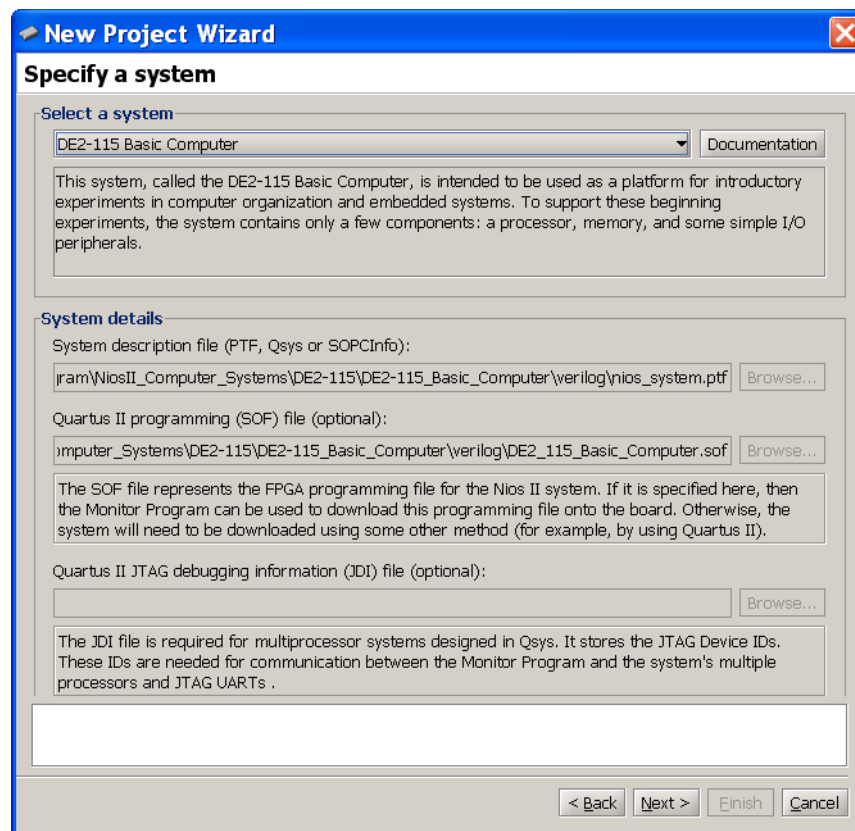
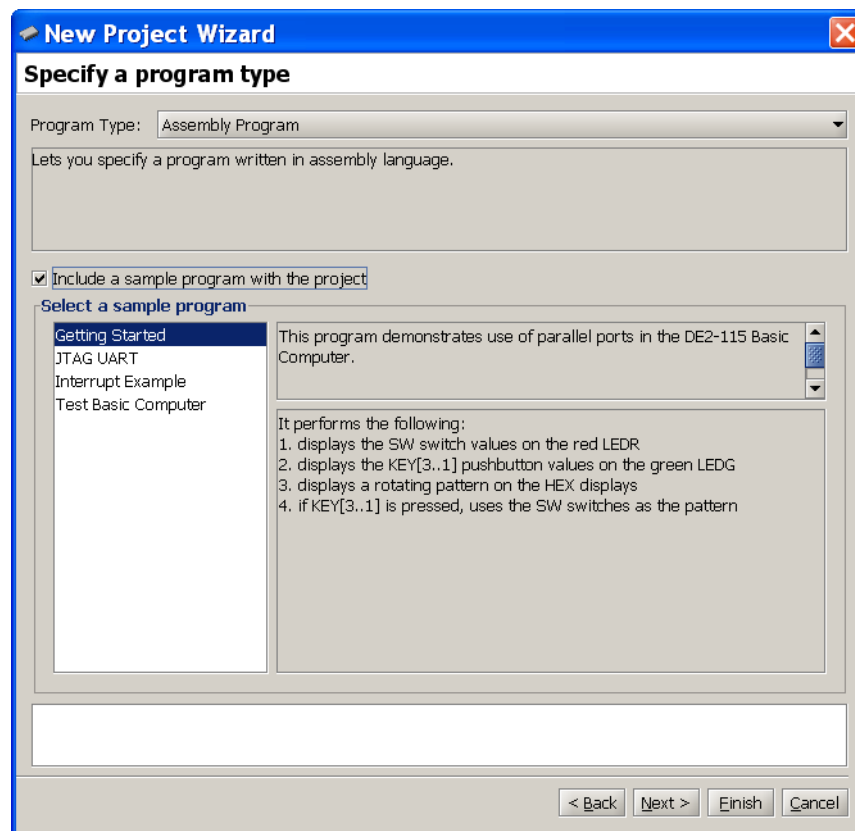
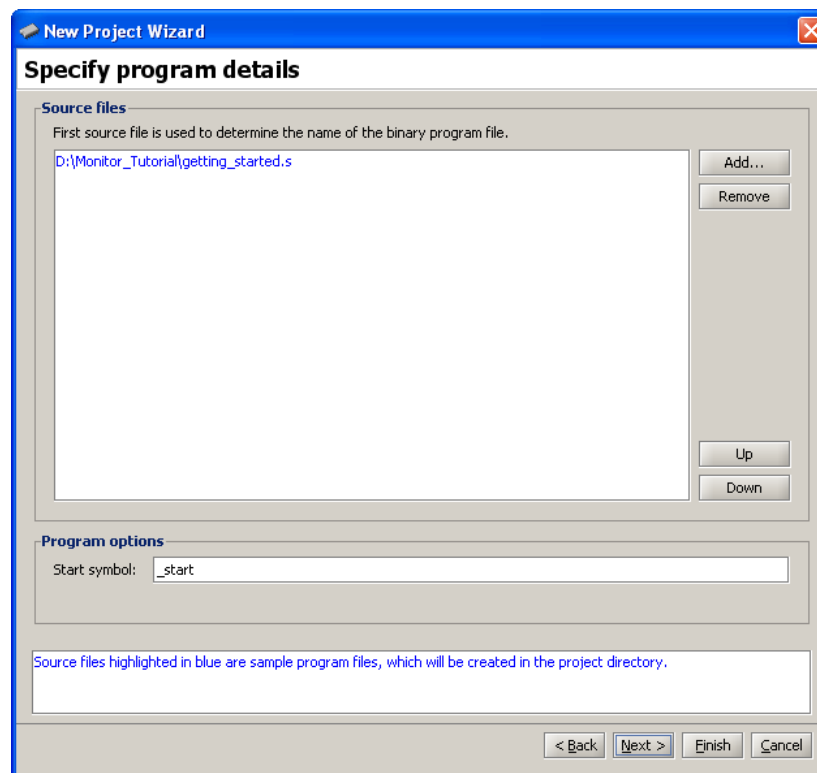

Figure 6. Specifying the Nios II hardware system.
Figure 7. Selecting a program type and sample program.
Figure 8. Specifying source code files.
2. Click **Next** to advance to the window shown in Figure 6, which is used to specify a Nios II hardware system. Nios II-based systems are described by a *.ptf* or *.qsys* file, which are generated by the Altera SOPC Builder tool and Qsys tool, respectively, when the system is created. More information about creating systems using SOPC Builder can be found in the tutorial called *Introduction to the Altera SOPC Builder*, while information about creating systems using Qsys can be found in the *Introduction to the Altera Qsys System Integration Tool* tutorial. Both tutorials are available in the University Program section of Altera's website. An optional *.sof* file, if specified, represents the FPGA circuit that implements the Nios II-based system; this file can be downloaded into the FPGA chip on the board that is being used.
As depicted in Figure 6, select the pre-built system named *DE2 Basic Computer*. In the top right corner of the screen there is a **Documentation** button. Clicking on this button opens a user guide that provides all information needed for developing Nios II programs for the DE2 Basic Computer, such as the memory map for addressing all of the I/O devices in the system. This file can also be accessed at a later time by using the command **Settings > System Settings** and then clicking on the **Documentation** button.
3. Click **Next** to advance to the screen in Figure 7, which is used to specify the program source files that are associated with the project. The **Program Type** drop-down list can be used to select one of the following program types:
For this example, set the program type to **Assembly Program**. When a pre-built Nios II computer system has been selected for the project, as we did in Figure 6, it is possible to click on the selection **Include a sample program with the project**. As illustrated in Figure 7 several sample assembly language programs are available for the DE2 Basic Computer. For this tutorial select the program named *Getting Started*. Click **Next** to advance to the screen in Figure 8. When a sample program has been selected, the source code file(s) associated with this program are listed in the **Source files** box. In this case, the source file is named *getting\_started.s*; this source file will be copied into the directory used for the project by the Monitor Program. If a sample program is not used, then it is necessary to click the **Add** button and browse to select the desired source file(s).
Figure 8 shows that it is possible to specify the label in the assembly language program that identifies the first instruction in the code. In the *getting\_started.s* file, this label is called `_start`, as indicated in the figure.